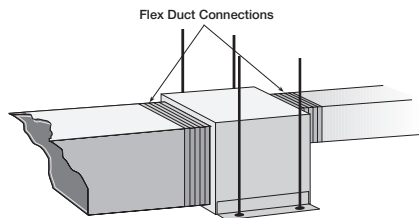

Figure 10
- For low sound applications, fiberglass ductboard is recommended over metal ductwork for reducing fan noise, refer to Figure 9. Where metal duct is used, sound transmission can be reduced with flexible duct connections between the fan and the duct, refer to Figure 10.